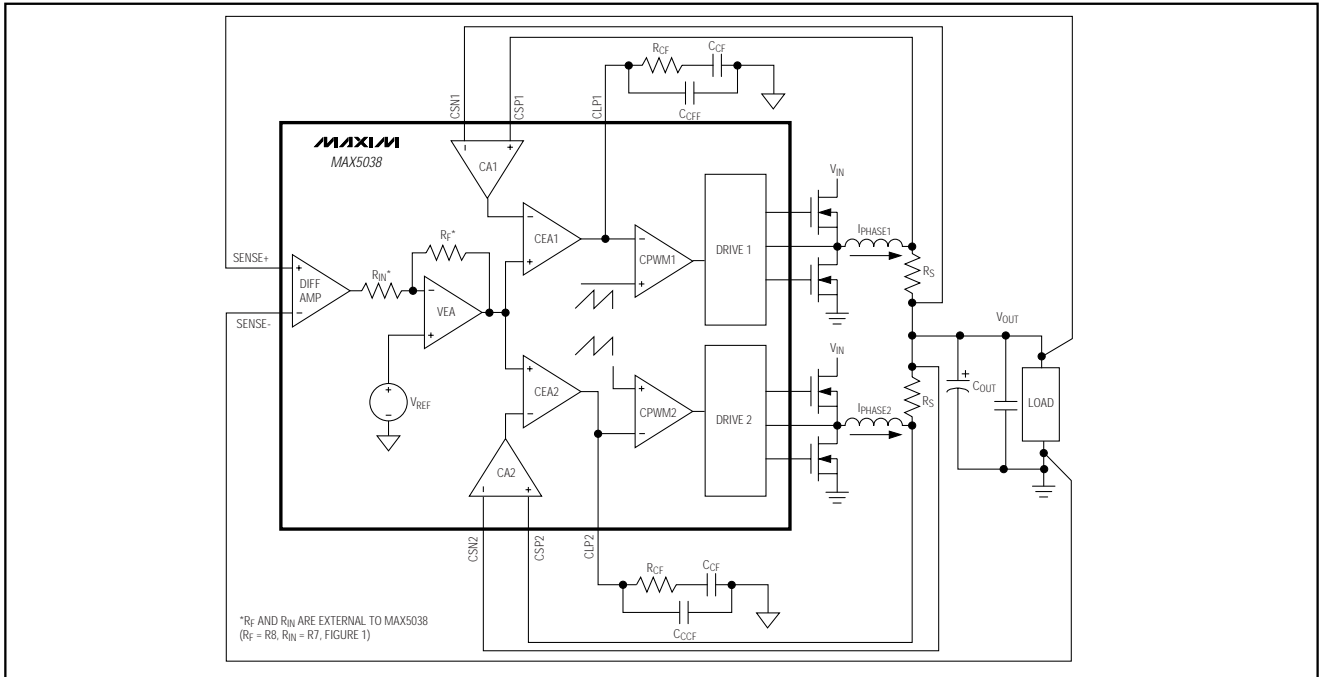

Figure 3a. MAX5038 Control Loop
The MAX5038/MAX5041 use an average current-mode control scheme to regulate the output voltage (Figures 3a and 3b). The main control loop consists of an inner current loop and an outer voltage loop. The inner loop controls the output currents (IPHASE1 and IPHASE2) while the outer loop controls the output voltage. The inner current loop absorbs the inductor pole reducing the order of the outer voltage loop to that of a single-pole system.
The outer voltage control loop consists of the differential amplifier (DIFF AMP), reference voltage, and VEA. The unity-gain differential amplifier provides true differential remote sensing of the output voltage. The differential amplifier output connects to the inverting input (EAN) of the VEA. The noninverting input of the VEA is internally connected to an internal precision reference voltage. The MAX5041 reference voltage is set to +1.0V and the MAX5038 reference is set to the preset output voltage. The VEA controls the two inner current loops (Figures 3a and 3b). Use a resistive feedback network to set the VEA gain as required by the adaptive voltage-positioning circuit (see the *Adaptive Voltage Positioning* section).
Each phase of the MAX5038/MAX5041 has a dedicated transconductance current-error amplifier (CEA-) with a typical  $g_m$  of 550 $\mu$ S and 320 $\mu$ A output sink and source current capability. The current-error amplifier outputs, CLP1 and CLP2, serve as the inverting input to the PWM comparator. CLP1 and CLP2 are externally accessible to provide frequency compensation for the inner current loops (Figures 3a and 3b). Compensate CEA- such that the inductor current down slope, which becomes the up slope to the inverting input of the PWM comparator, is less than the slope of the internally generated voltage ramp (see the *Compensation* section).
The differential amplifier (DIFF AMP) facilitates output voltage remote sensing at the load (Figures 3a and 3b). It provides true differential output voltage sensing while rejecting the common-mode voltage errors due to high-current ground paths. Sensing the output voltage directly at the load provides accurate load voltage sensing in high-current environments. The VEA provides the difference between the differential amplifier output (DIFF) and the desired output voltage. The differential amplifier has a bandwidth of 3MHz. The difference between SENSE+ and SENSE- regulates to the preset output voltage for the MAX5038 and regulates to +1V for the MAX5041.
The VEA output clamps to +0.9V (plus the common-mode voltage of +0.6V), thus limiting the average maximum current from individual phases. The maximum average current-limit threshold for each phase is equal to the maximum clamp voltage of the VEA divided by the gain (18) of the current-sense amplifier. This allows for accurate settings for the average maximum current for each phase. Set the VEA gain using  $R_F$  and  $R_{IN}$  for the amount of output voltage positioning required as discussed in the *Adaptive Voltage Positioning* section (Figures 3a and 3b).
Average current-mode control has the ability to limit the average current sourced by the converter during a fault condition. When a fault condition occurs, the VEA output clamps to +0.9V with respect to the common-mode voltage ( $V_{CM} = +0.6V$ ) and is compared with the output of the current-sense amplifiers (CA1 and CA2) (see Figures 3a and 3b). The current-sense amplifier's gain of 18 limits the maximum current in the inductor or sense resistor to  $I_{LIMIT} = 50mV/R_S$ .